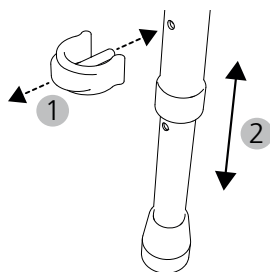

Abb. 9
1. Pull out the pin clip on the telescopic leg (Fig. 9, 1).
2. Adjust the telescopic leg to the desired length (Fig. 9, 2). Ensure holes in the inner and outer pipes are covered.